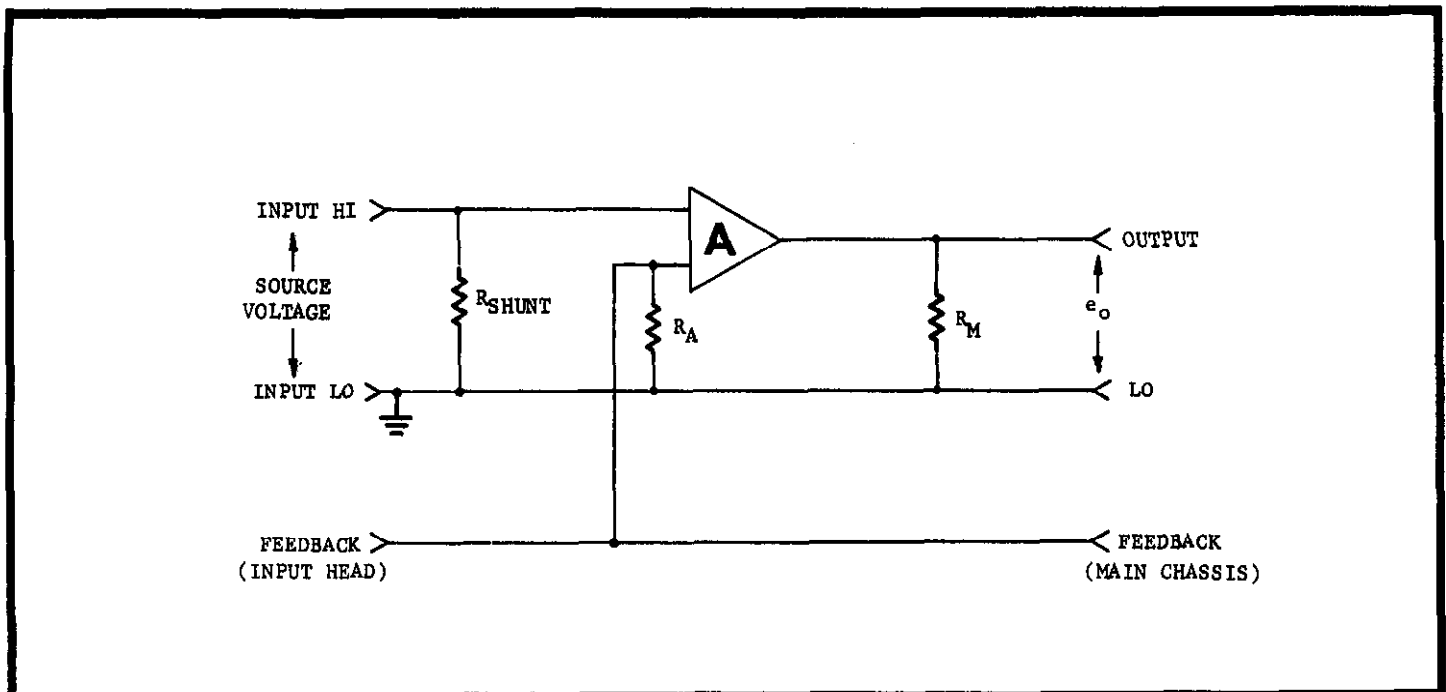

FIGURE 6. Voltage Function With Shunt Resistor  $R_S$
1. Theory. The electrometer, when used as a microvoltmeter, can be illustrated as shown in Figure 6. In this configuration the instrument is useful for making sensitive measurements from 30 microvolts full scale to 30 volts. The sensitivity is adjusted by the RANGE Switch (S403) represented by  $R_A$ . The input voltage is represented by  $e_i$ . The voltage  $e_A$  is defined by the following expression,